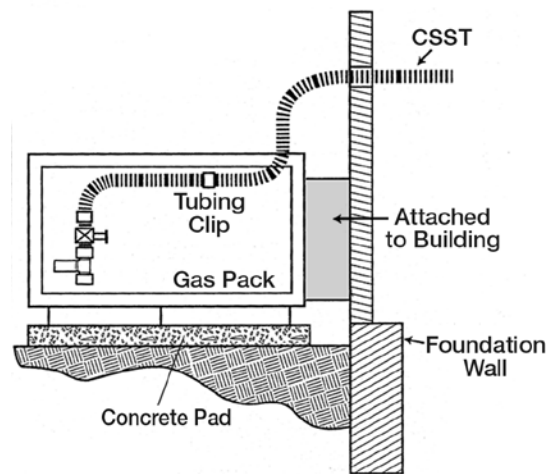

Fig. 4-69
- b) Gas Packs and Other Non-Moveable Equipment (Fig. 4-69) – Can be connected to the Gastite/FlashShield+ CSST system either through a terminating fitting and rigid pipe or directly with Gastite/FlashShield+ CSST connected to the appliance shut-off valve.